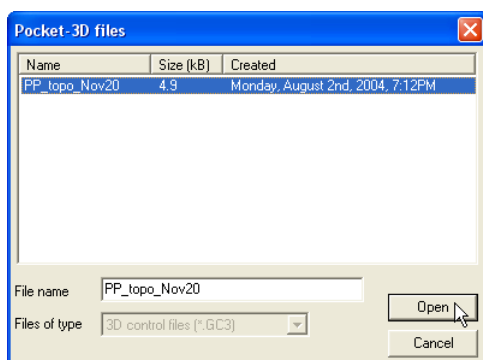

Figure 2-3. Open Control Points File From a Pocket-3D Controller
3. On the *Pocket-3D files* dialog box, select the file to import and click **Open** (Figure 2-3). The file type is automatically selected.